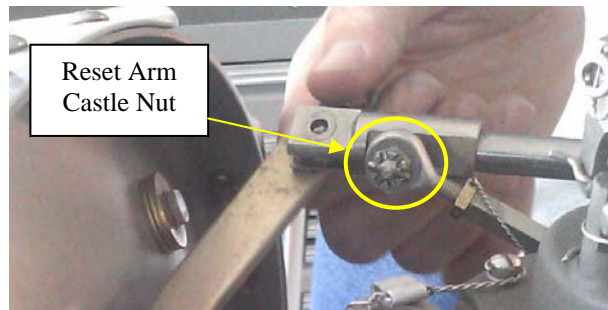

Figure 5-5: Reset Arm Castle Nut
- d. If there is insufficient play in the propeller reversing cable to move the beta arm free from the propeller reversing cable, remove the reset arm cotter pin and castle nut to disconnect the reset arm from the reversing cable, without disturbing the reset arm's safety wire. Be careful to retain the two (2) washers installed on both sides of the reset arm rod end. Refer to **Figure 5-5**.
4. If the propeller reversing cable reset arm was disconnected from the reversing cable, install one of the previously removed washers, reconnect the reversing arm, install the second previously removed washers, install the castle nut and secure the castle nut with a new cotter pin (P/N MS9245-23). Refer to **Figure 5-5**.